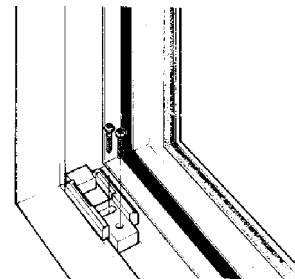

Fig. 6b
10.9.3 Remove the jig, place the keep in position (Fig 6b) and secure using No 6 x 314 pozi pan head self lapping screws (W328)